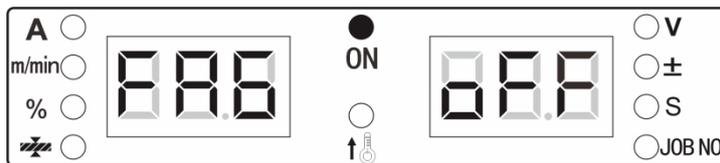

Fig. 4-6 FA6 display interface
1. Enter the internal menu and find **FA6** by turning the knob. The digital meter is as displayed in Fig.4-6.